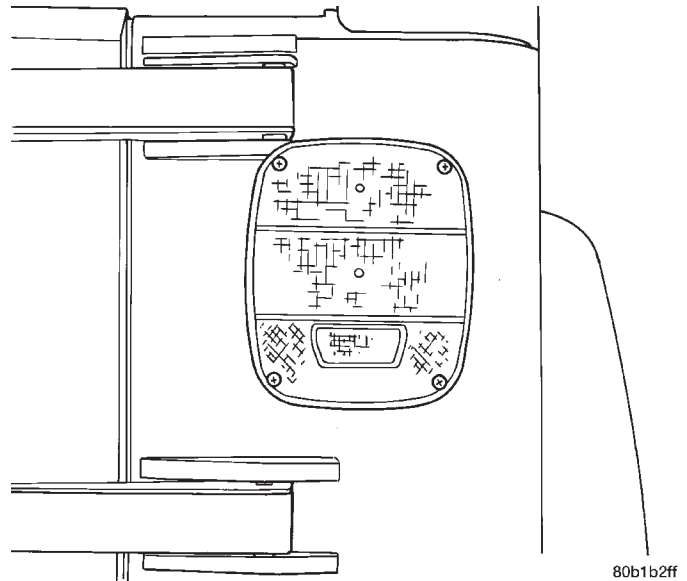

Fig. 6 Tail Lamp Lense
(1) Remove the tail lamp lense attaching screws and lense (Fig. 6).